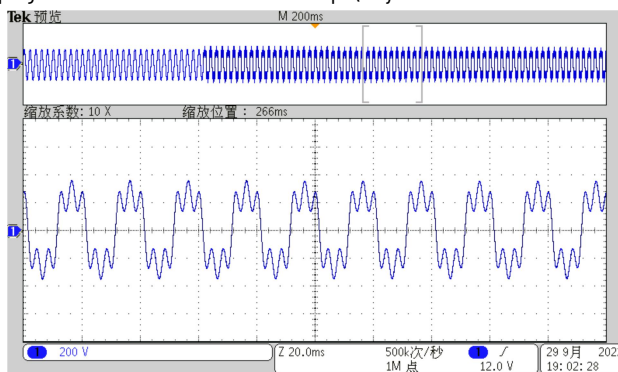

Figure 105 Harmonic Example Diagram
4) Click 'Trigger' to display the programmed waveform on the oscilloscope (only the $\Phi 1$ waveform is shown here); see Figure 105.